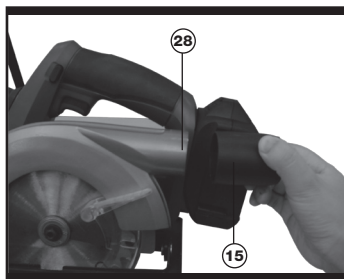

Fig 7
| 28. | DUST EXTRACTION OUTLET (See Fig.7) |
5. DUST/CHIP EXTRACTION (See Fig.7)
(11). There is a cutting guide notch on the front of the base plate (11) for using with a parallel guide (10). For straight cuts, use the 0° guide mark to align with your parallel guide scale. For a 45° bevel cut, use the 45° guide mark to align with your parallel guide scale. Securely clamp the parallel guide (10) (See Fig. 7). Always make a trial cut to check the setting.